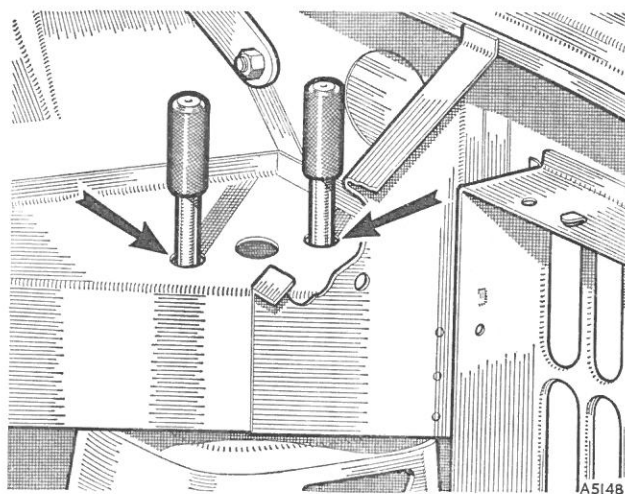

Fig. R.24
Insert the four pins (12) through the holes in the body and into the holes in the top faces of the front checking frame. Check the relation of the holes in the body to the plain shank of the checking pins. The ideal position is when each of the holes in the body is concentric with the shank of its checking pin (see Fig. R.24). Adjust the body on the jig until this position, or the nearest possible approach to it, has been attained.